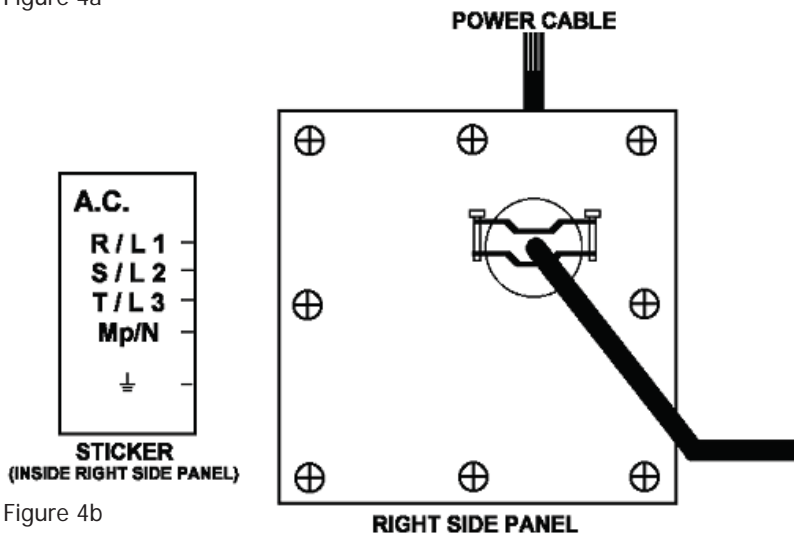

Figure 4b
2. Select input cable size and configuration based on load requirements and local electrical codes. Feed the cable through the cable clamp of the panel. (Fig 4b)